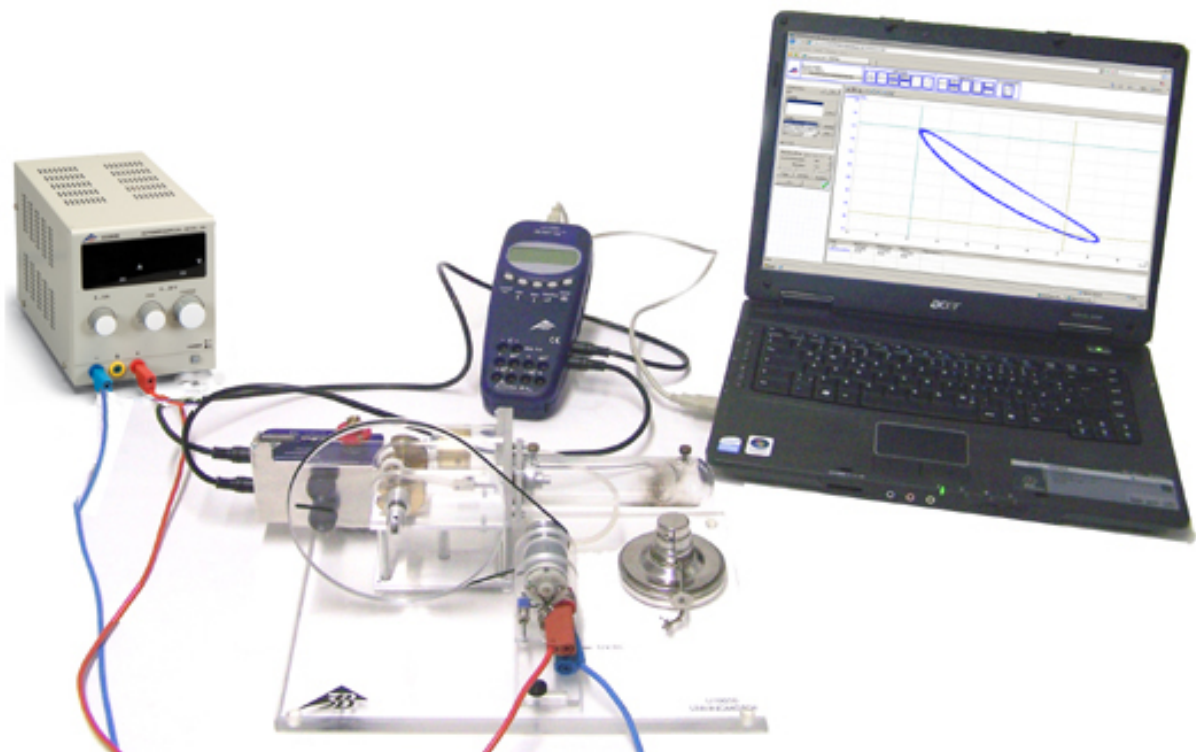

Fig. 4 Recording the pressure-volume diagram
- Connect the nozzle marked “+” on the relative pressure sensor to the nozzle on the working cylinder of the Stirling engine by means of the hose included with the sensor holder (U11372) (see Fig. 4).